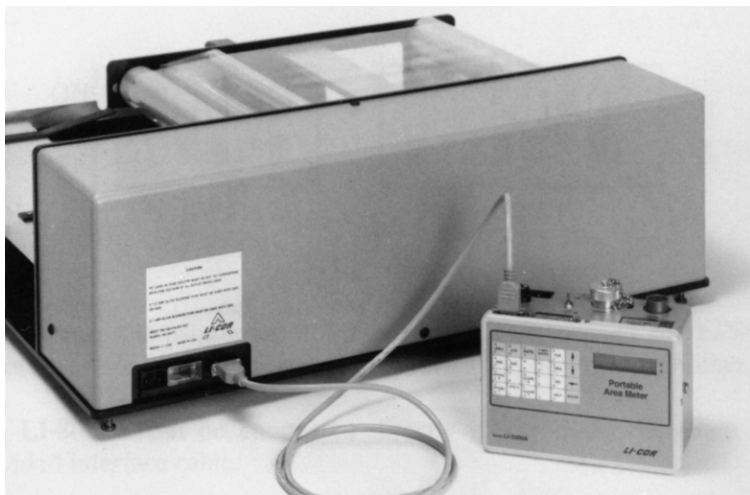

Figure 5. LI-3000A console connected to the LI-3100.
- 2) Connect the 3000A-03 Interface Cable (9 pin connectors on each end) to the LI-3100 and to the LI-3000A as shown in Figure 5 below. The LI-3000A console can be connected directly to LI-3100's with serial numbers LAM653 and above. For units with serial numbers LAM652 and below, the 3000A-04 Interface Kit is available (includes the 3000A-03 Interface Cable). NOTE: The 3000A-04 Interface Kit requires an electronics technician for installation, or it can be installed at LI-COR by returning your instrument.